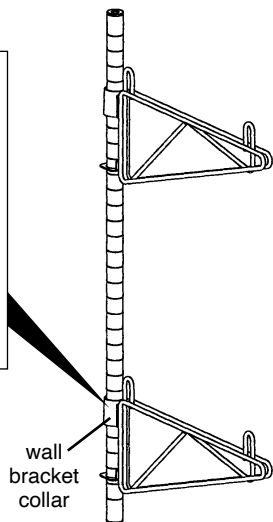

figure 4
- Slide wall bracket collar (see figure 4) over top of post and down onto plastic split sleeve. Repeat for top bracket.